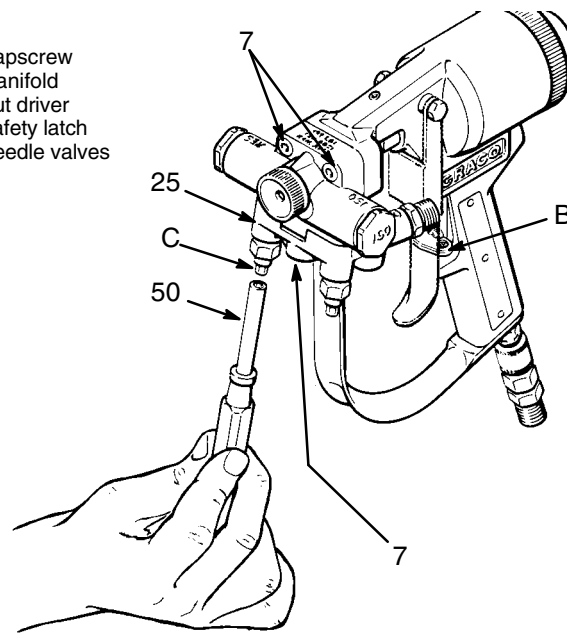

Fig. 12
4. Remove the two capscrews (7) using the 3/16 in. wrench (48). See Fig. 12. With the air connected to the gun, hold the gun with the nozzle housing straight down and briefly trigger the gun to push the nozzle housing away from the gun body. Disconnect the air line.